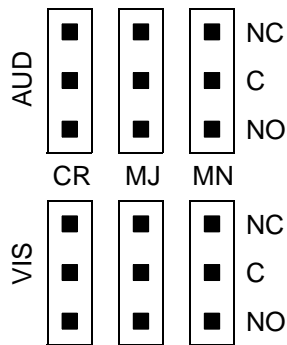

Figure 3-26. Alarm Connections
Connect the TimeSource 3600 alarms to the office alarm panel at the critical (CR), major (MJ), and minor (MN) wire-wrap pins. See Figure 3-14 for the location of the alarm pins, and Figure 3-26 for the connections.